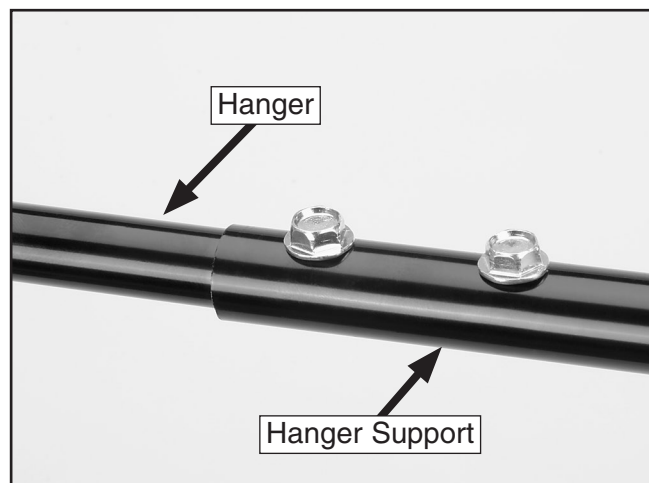

Figure 11. Hanger attached to hanger support.
18. Secure this hanger assembly with two $\frac{1}{4}$ "-20 x $\frac{1}{2}$ " flange bolts (see **Figure 11**).